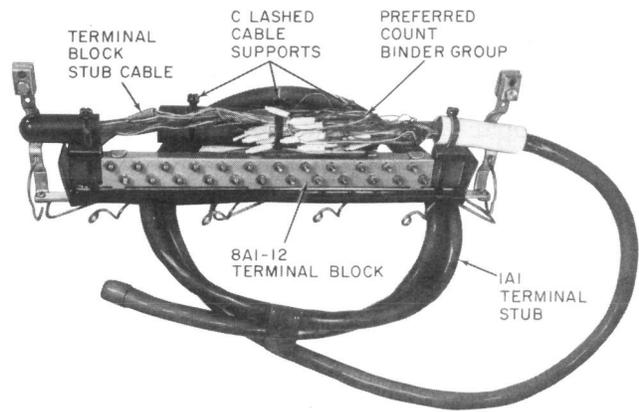

Fig. 6—Completed Splice—Preferred Count
(7) For **preferred count** version place cable guard leaving preferred count binder group and terminal block stub cable exposed (Fig. 6).